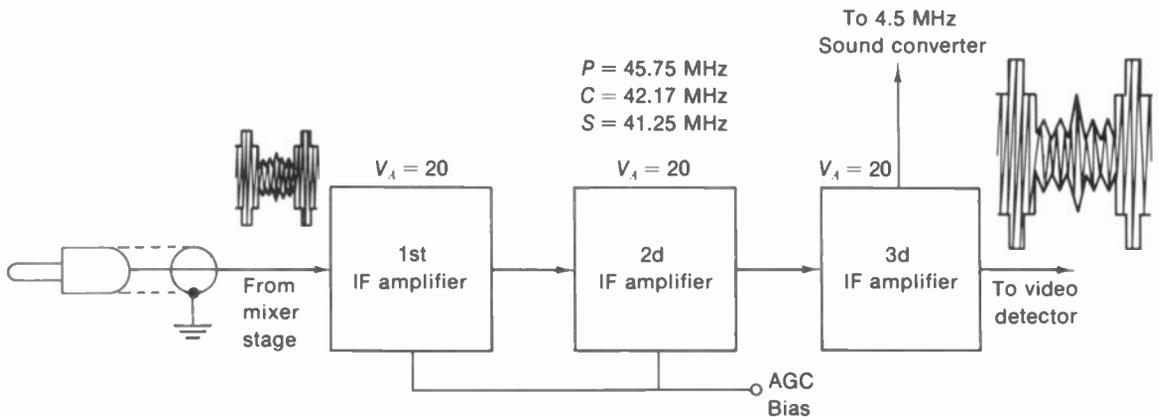

FIGURE 23-1 PICTURE IF AMPLIFIER SECTION WITH THREE TUNED STAGES.
As shown in Fig. 23-1, this section amplifies the IF signal output from the mixer stage on the rf tuner. A short length of coaxial cable feeds the tuner output to the first IF amplifier. For any channel in the VHF or UHF bands, the rf picture carrier signal is converted by the tuner to 45.75 MHz for the picture IF amplifier. This section is also called the *video IF amplifier*, since the composite video signal is the envelope of the modulated picture IF signal.
**The IF sound signal.** For intercarrier sound, the IF sound signal at 41.25 MHz is amplified with the IF picture signal at 45.75 MHz in the common IF stages. Both the sound and picture IF signals can be amplified just by having enough bandwidth. The relative gain for the IF sound at 41.25 MHz is only 5 to 10 percent in the IF picture amplifier. Color receivers have a separate diode converter for the 4.5-MHz intercarrier sound, as shown in Fig. 23-1. In mono-